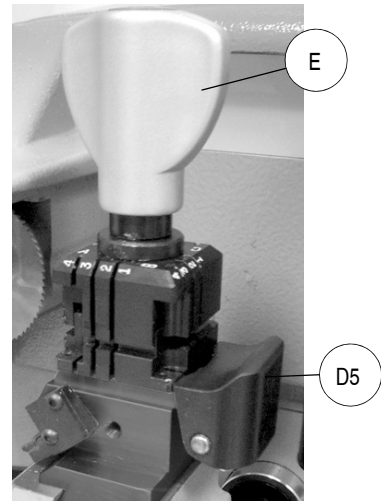

Fig. 13
With loosened handle (E) a light rotation of the clamp is sufficient (gripping by the 2 jaws) to turn it to the required side. Alignment is automatic and guaranteed by the mobile pressure device (D5) (fig. 13).